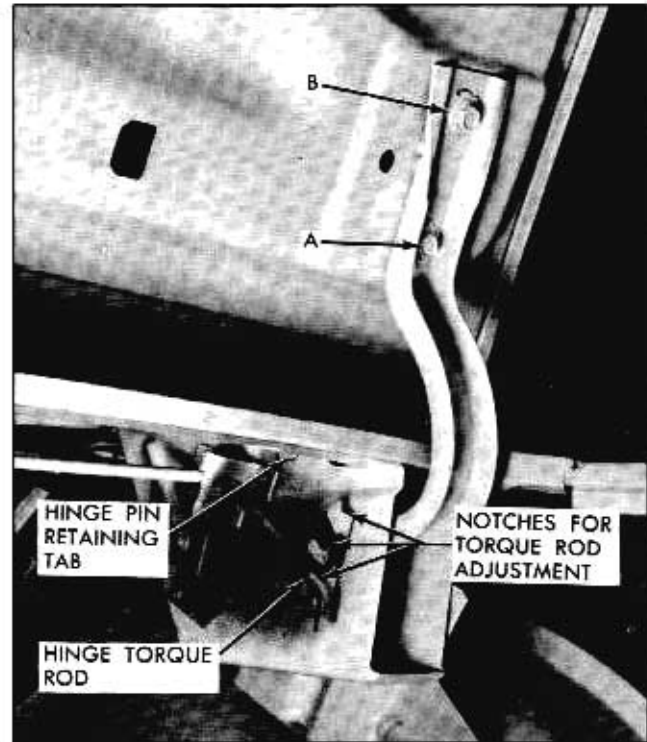

Fig. 10A-52 Back Door Hinge and Torque Rod
3. Scribe location of hinge strap on lid inner panel and remove bolts "A" and "B" (Fig. 10A-52) securing hinge strap to lid.